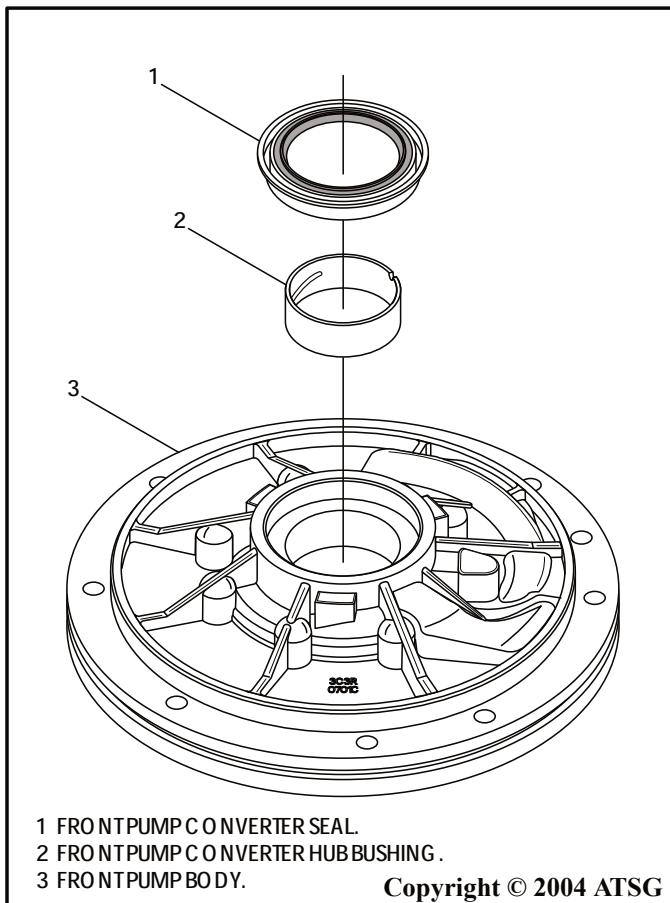

Figure 82
5. Inspect the pump body bushing and replace as necessary, as shown in Figure 82, using the proper driver.
6. Install a new oil pump converter seal using the proper driver, as shown in Figure 82.